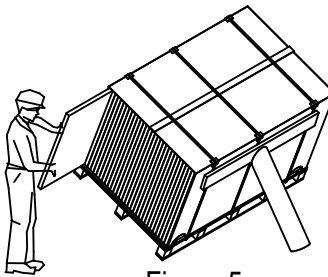

Figure 5
5. Do not place the package on a tilt angle of more than 17 degrees. When unpacking on a non-horizontal surface, measures must be taken to protect modules, as shown in Figure 5.